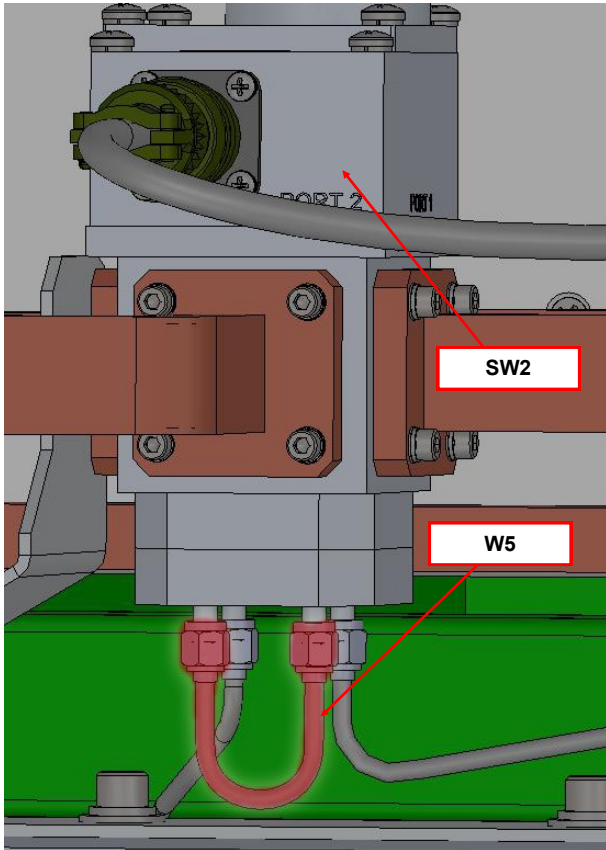

Figure 4-15: Connect W5 to SW2 (shown from top of switch)
1. Locate the short coax cable labeled W5. Connect this cable to the SMA connectors on Switch 2 (SW2) at Port 3 and Port 4. See **Figure 4-15**.